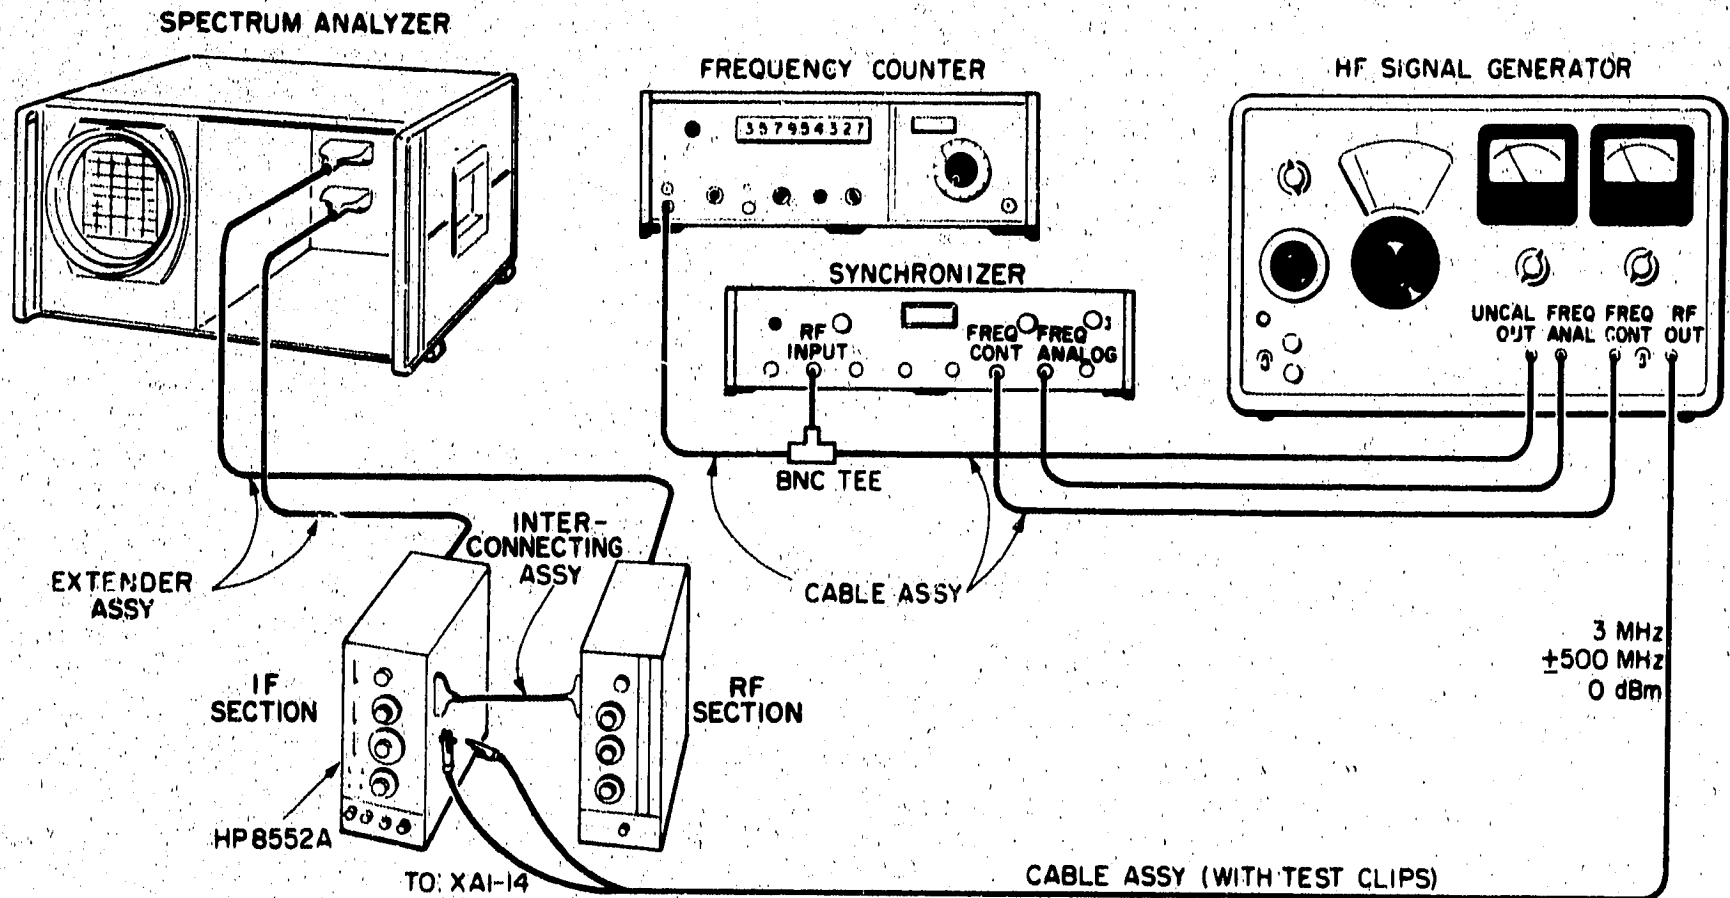

Figure 5-8. 3 MHz IF Bandwidth Checks: 3 to .05 kHz Test Setup
9. Remove 3 MHz Amplifier Assembly A2 and connect test setup as shown in Figure 5-8. Set signal generator frequency to 3 MHz (± 500 Hz) at -40 dBm; set LINEAR SENSITIVITY control of spectrum analyzer fully ccw (see step 1, HP 8708A Test Setup).